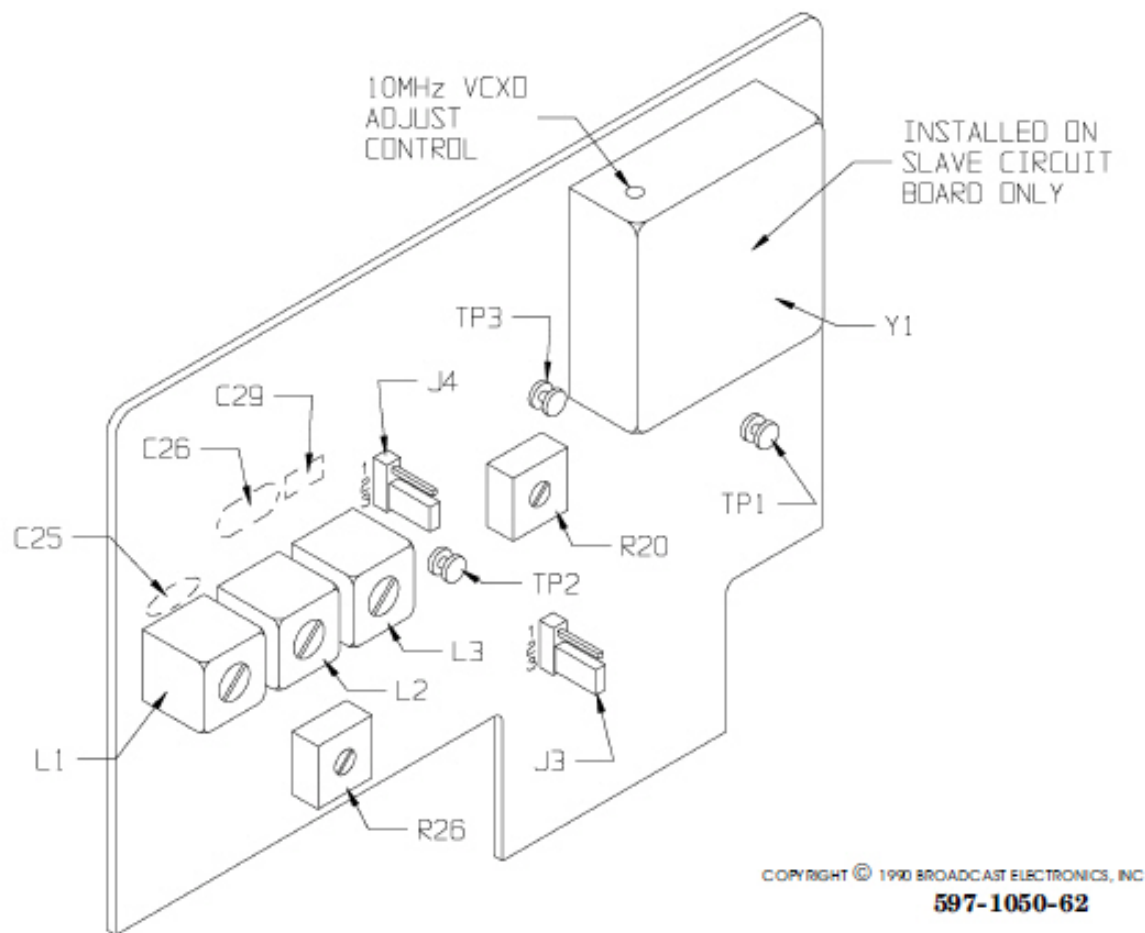

Figure 11-3. SLAVE/MASTER CIRCUIT BOARD CONTROLS
Refer to Figure 11-3, and adjust R26 for the level required by the transmission equipment.
- B. Remove the transmitter top-cover. Refer to Figure 11-3 and connect an oscilloscope between TP2 and ground.
- D. Refer to Figure 11-3 and adjust R20 for a 50% duty cycle as indicated on the oscilloscope.
- B. Refer to Figure 11-3 and operate programmable jumpers J3 and J4 to position 2-3.
- C. Refer to Figure 11-3 and adjust output level control R26 to midrange position.
D. Refer to Figure 11-3 and connect an oscilloscope to transmitter rear-panel SUB-1 receptacle.
F. Refer to Figure 11-3 and adjust L1, L2, and L3 for a maximum indication on the oscilloscope. Repeat if necessary.
C. Remove the top-cover. Refer to Figure 11-3 and connect a frequency counter between TP1 and ground.
F. Refer to Figure 11-3 and adjust the 10 MHz VCXO adjust control for 10 MHz \pm 5 Hz as indicated on the frequency counter.
The removal or installation of capacitors C25, C26, and C29 selects alternate reference frequencies. If an alternate frequency is desired, refer to Figure 11-3 and the following information and install the required combination of capacitors.